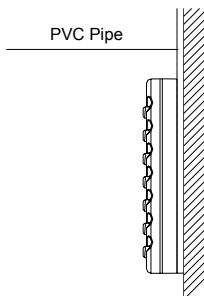
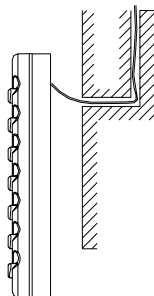

Fig.10.22 Surface Mounting of Cable
Fig.10.23 Concealed mounting of Cable
① . Do not wrap the protective tape too tight, otherwise the efficiency of thermal insulation may be decreased. Ensure that the condensate drainage flexible tube is separate from the bundled pipes.
② . After the protective work is completed and the pipes are wrapped, use seal material to block the hole in the wall, so as to prevent rain and wind from entering the room.
- ◆ If the communication line between the wired controller (85×85×16) and the indoor unit is surface-mounted, use 1# PVC pipe and make matching recess in the wall (refer to Fig.10.22); If concealed installation is adopted, 1# PVC pipe can be used (Refer to Fig.10.23).